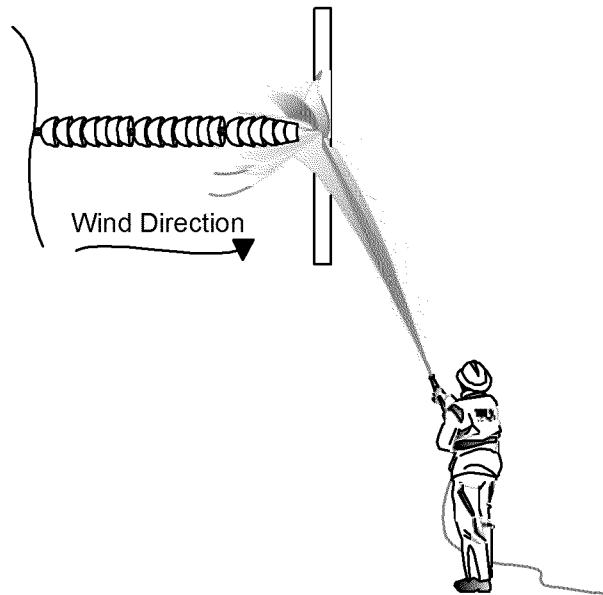

Figure 5-15
- B. Figure 5-15 below shows the nozzle operator starting at the structure and working towards the conductor. The wind is blowing left to right so the overspray will not fall on the unwashed section of the insulator.